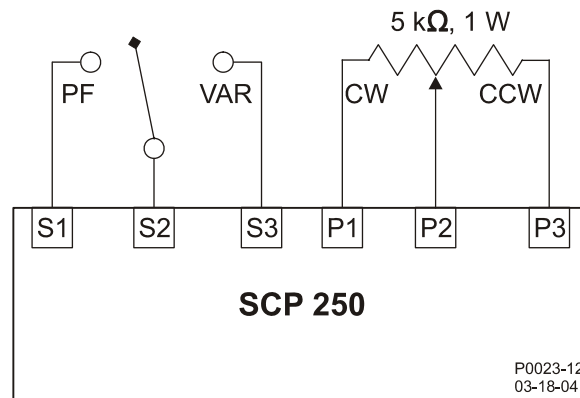

Figure 4-17. Potentiometer and Switch Connections
7. Connect wires from the potentiometer and/or switch to the SCP 250 terminals. Figure 4-17 illustrates the potentiometer and switch connections to the SCP 250.